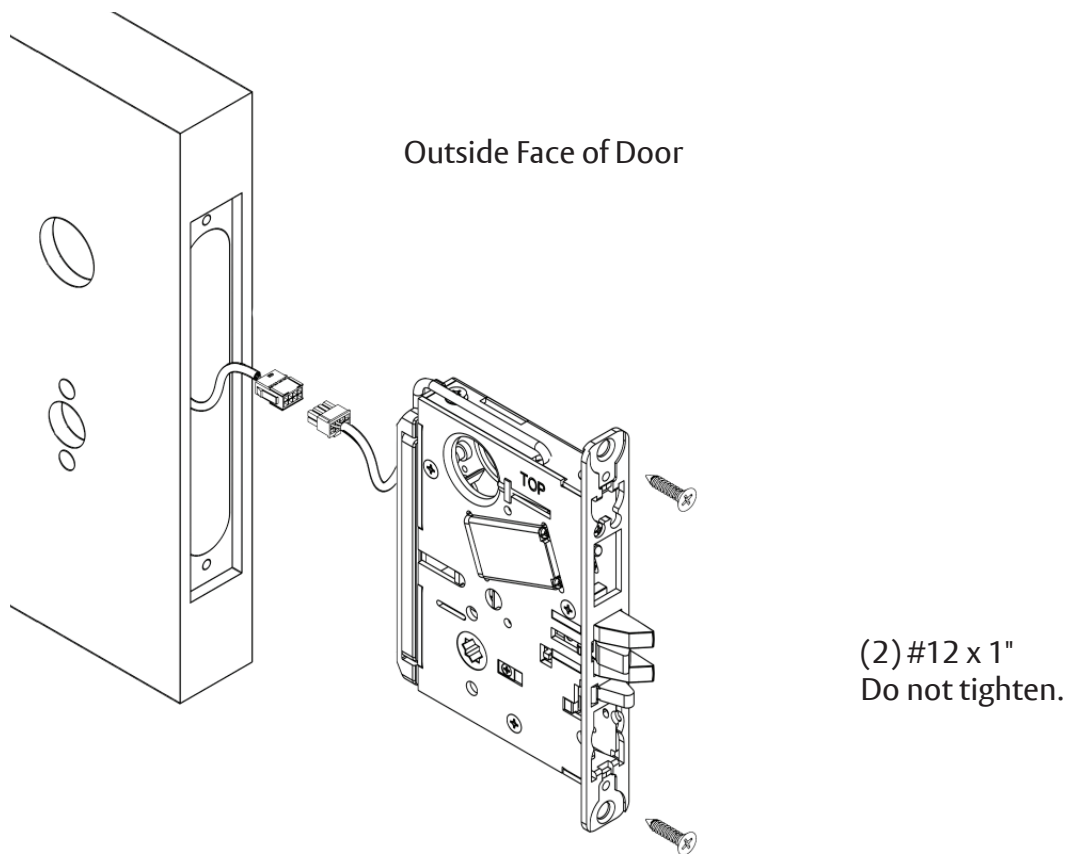

Figure 6
1. Plug mortise lock harness into ElectroLynx® harness in door (Figure 6).
2. Install, but do not tighten two #12 x 1" combination screws through lock body (Figure 6).